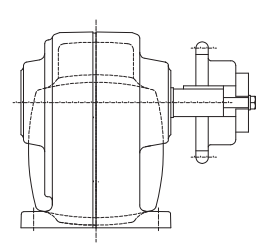

Fig.3 Sprocket installation
- (4) The tolerance for the holes of the sprocket, coupling, etc. is H8 degree. Using the tap on the output shaft, smoothly install the sprocket, coupling, etc. (refer to Fig. 3). Please use shock-less hammer for those install. An iron hammer may be damaged the bearing, gear, etc., by a strong impact.